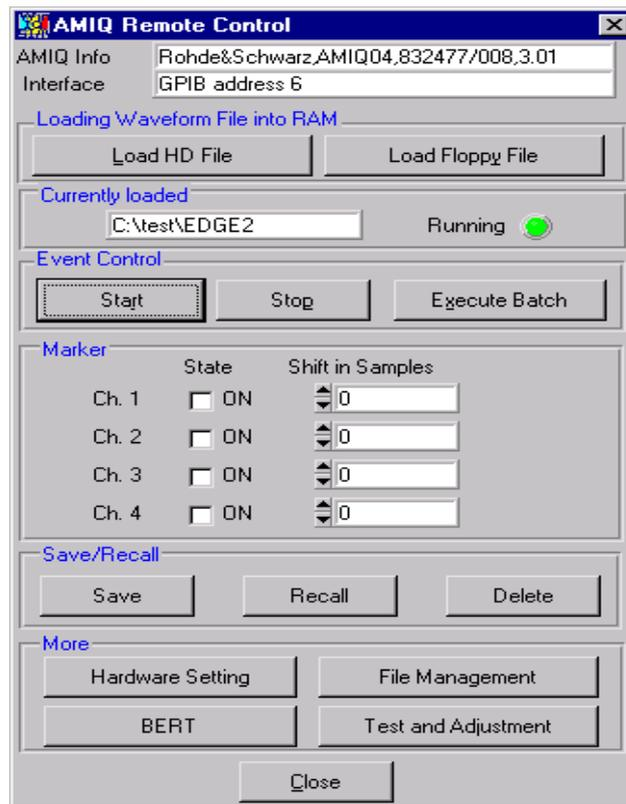

Fig. 5 In the **AMIQ Remote Control** panel of WinIQSIM a waveform file is executed by pressing the **Execute Batch** button.
**Note:** *Only files named “winiqsim.iec” can be executed via **Execute Batch** in the **AMIQ Remote Control** panel (Fig. 5) or via the *AMIQ CTRL* menu in the SMIQ. If such a file is not found on the batch floppy the AMIQ will issue a warning with two short low frequency warning beeps. WinIQSIM or the SMIQ will display an error message, “-257 File name error; invalid or reserved name; C:batch\winiqsim.iec”. It is necessary to verify if such a file does actually exist on the floppy disk.*
- From a PC over the GPIB (or serial) interface, using the **Load HD File** button in the **AMIQ Remote Control** menu under WinIQSIM, see also Fig. 5.
The difference between a “winiqsim.iec” and a “autoexec.iec” file is in how these files are accessed and executed. The “winiqsim.iec” file name is automatically generated when a user creates a waveform file in WinIQSIM. WinIQSIM prepares the file so that it can be accessed and executed from a batch floppy using the **AMIQ Remote Control** panel in WinIQSIM by pressing the **Execute Batch** button in the Event Control section, as shown in Fig. 5. The SMIQ uses also a “winiqsim.iec” file to remotely access and execute the batch floppy. An “autoexec.iec” file, is interpreted by the AMIQ as an auto execution file. If a floppy disk with a file called “winiqsim.iec” is inserted into the AMIQ floppy drive, the AMIQ only executes the file after it has been externally called by the user. However if the AMIQ floppy drive